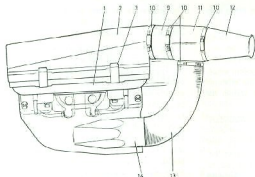

Fig. 18. Air cleaner with preheating unit
Late prod. B 18 B engines are fitted with an air cleaner with a preheating unit, (Fig. 18) where the induction air, during starting and running with a cold engine, are drawn in through a hot-spot duct (14), which takes heat from the exhaust pipe. When the engine warms up, a flap in the flap housing (11) is influenced by a thermostat and the air is then drawn in directly through the air intake (12). In this manner the temperature of the induction air is kept at a constant level.